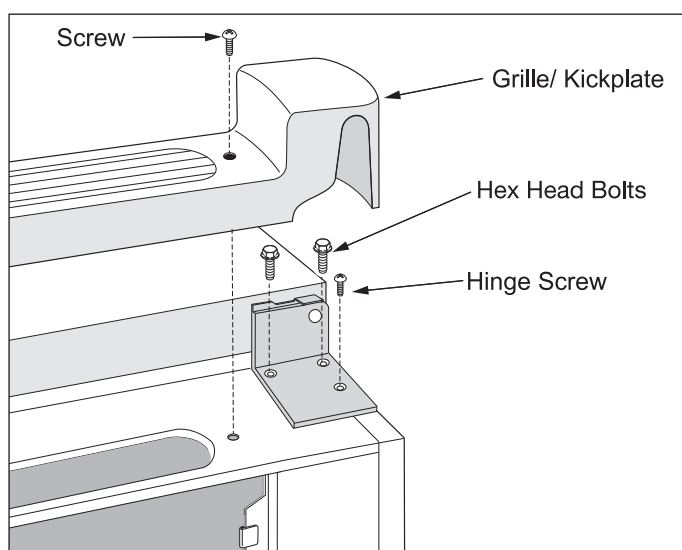

Figure 2-29. Bottom Hinge Removal
6. Using a 3/8" socket or wrench, extract the two bolts securing the lower hinge to the unit frame. Use a phillips head screwdriver to extract the remaining screw from the lower hinge assembly. (See Figure 2-29).